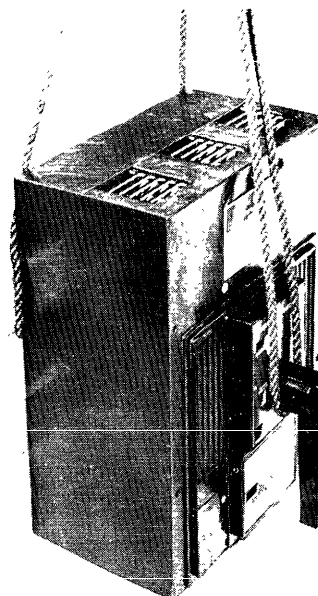

Fig. 2
- (A) Using sling and wooden lifting handles, breaker may be lifted as shown in Fig. 2.